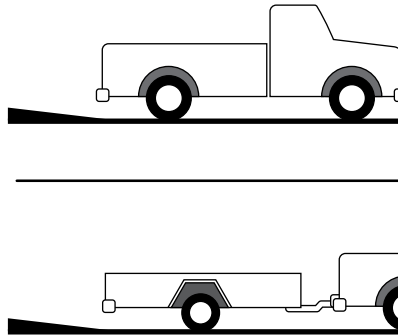

Figure 3-8
3. Face the truck bed or trailer towards a slight incline, which will reduce the steepness of the loading angle by bringing the bottom of the ramps up on the slight incline. See Figure 3-8.